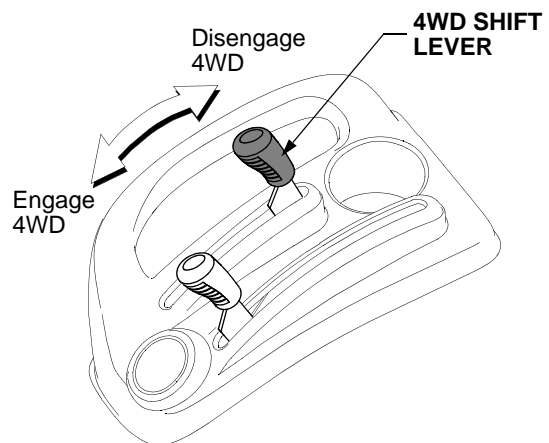

Figure 17
- Stop the tractor; push the lever to the right of the slot to clear the shift gate; then shift forward to engage the four wheel drive. See Figure 17.